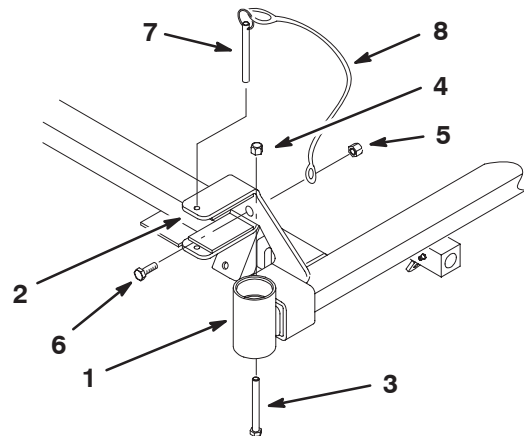

Figure 5
1. Place the Z Stand cradle bracket onto the left front frame as shown in Figure 5.
2. Install the Z Stand cradle bracket with a bolt (3/8 x 3-1/4 inch) and lock nut (3/8 inch) (Fig. 5).
Note: Install the bolt as shown in Figure 5.
3. Install the lanyard to bracket pin. Use large loop on lanyard (Fig. 5).
4. Install the lanyard with a bolt (1/4 x 3/4 inch) and lock nut (1/4 inch) (Fig. 5).